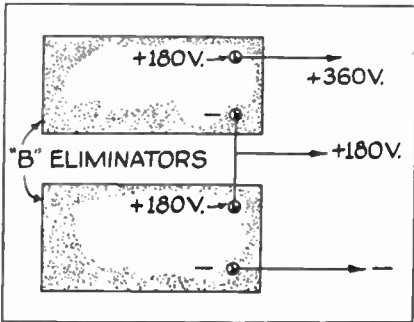

Fig. 25
(A) Yes, the highest positive lead of the first unit being joined to the negative lead of the second. But be careful not to connect the grounds in such a way that a short circuit may result. For safety, use a .1 mfd. fixed condenser in series with each ground. See Fig. 25.